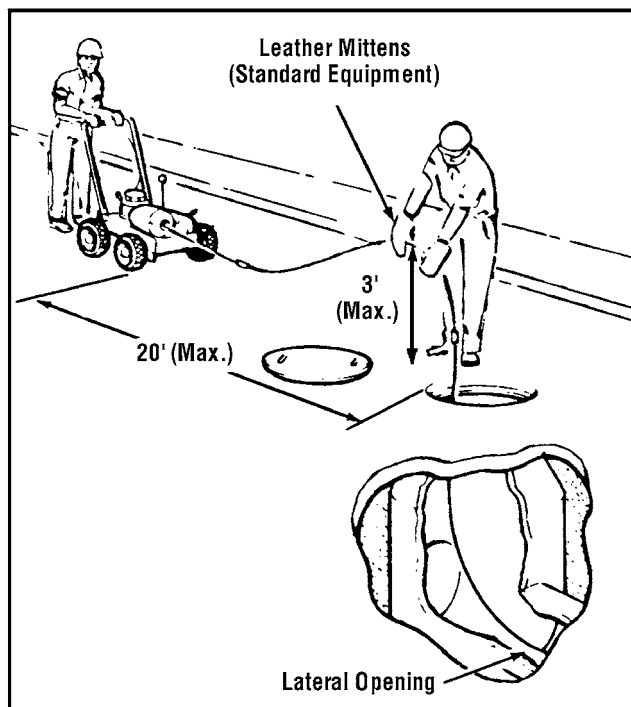

Figure 3 – Operating Rodder
⚠ WARNING Always follow the correct operating procedure in order to maintain proper control of the machine and rods and prevent serious injury (*Figure 3*).
11. As machine is pushed forward, the rod handler should push downward on rod with rod guided between thumbs and palms of hands with fingers extended (*Figure 3*).